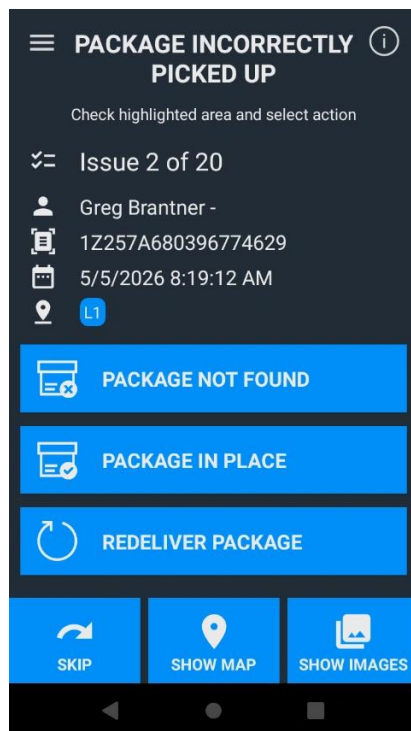

Figure 47: Package Incorrectly Picked Up choices
7. The Wizard stops at the first “Package Incorrectly Picked Up” issue. Determine what you are going to do with the package and tap the appropriate selection (see Figure 47):